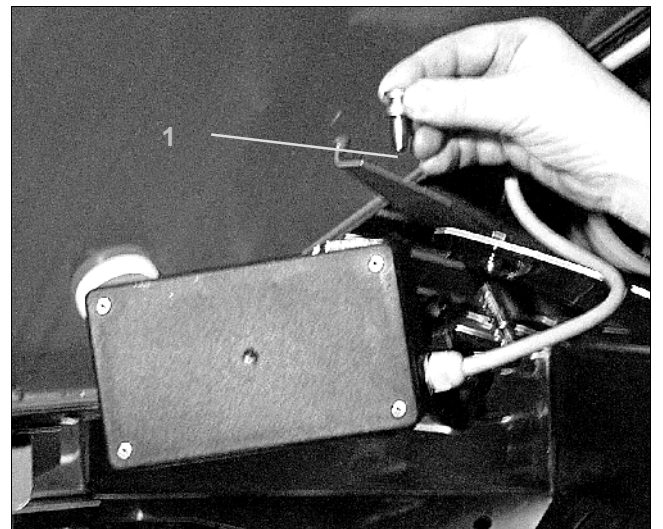

Fig. 102
- Pull off the two hinge pins (Fig. 102/1).